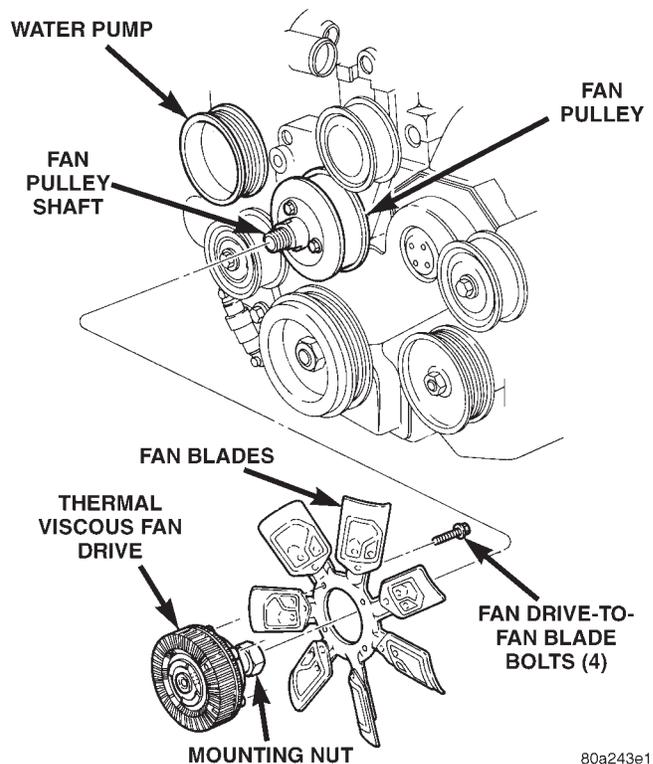

Fig. 26 Thermal Viscous Fan Drive and Blade Assembly
- (2) Remove fan blade assembly from viscous fan drive unit (four bolts) (Fig. 26).
(3) Lay fan on a flat surface with leading edge facing down. With tip of blade touching flat surface, replace fan if clearance between opposite blade and surface is greater than 2.0 mm (.090 inch). Rocking